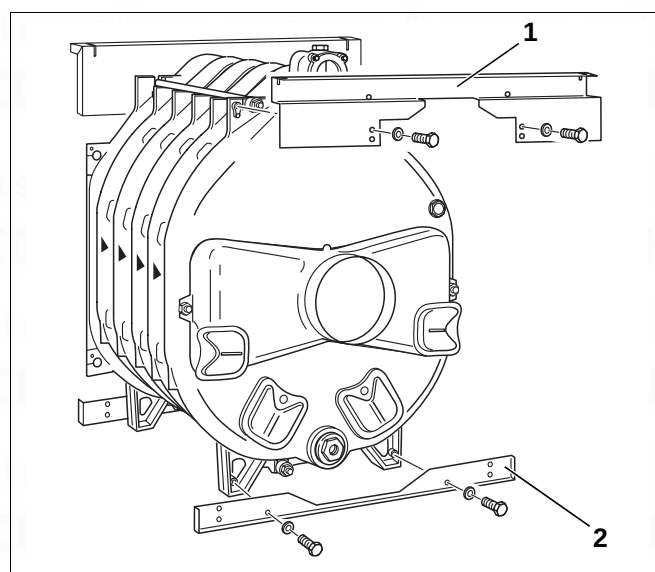

Fig. 31 Installation – rear connection plates
- ▶ Fasten top rear cross bar (Fig. 31, [1]) to the cast lugs then to rear section with machine screws (M 8 × 15). The folded edge on the front cross bar must **face forwards**.
- ▶ Screw the bottom cross bar (Fig. 31, [2]) to the feet of the rear section with two machine screws (M 8 × 15). The folded edge of the bottom cross bar must point towards the rear.